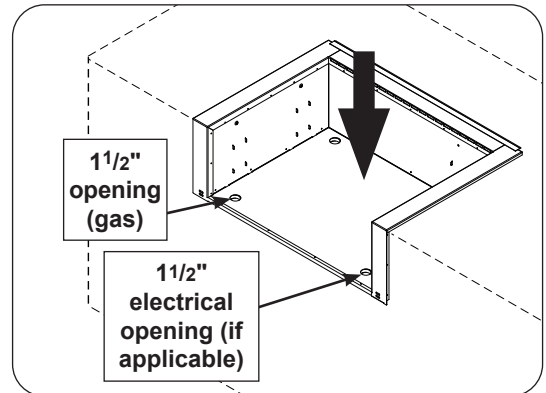

Fig. 4-1 Install insulating liner
1. Install the insulating liner as shown in Fig. 4-1.
Note: If possible, use the front opening for electrical feeds. See Fig. 4-1.